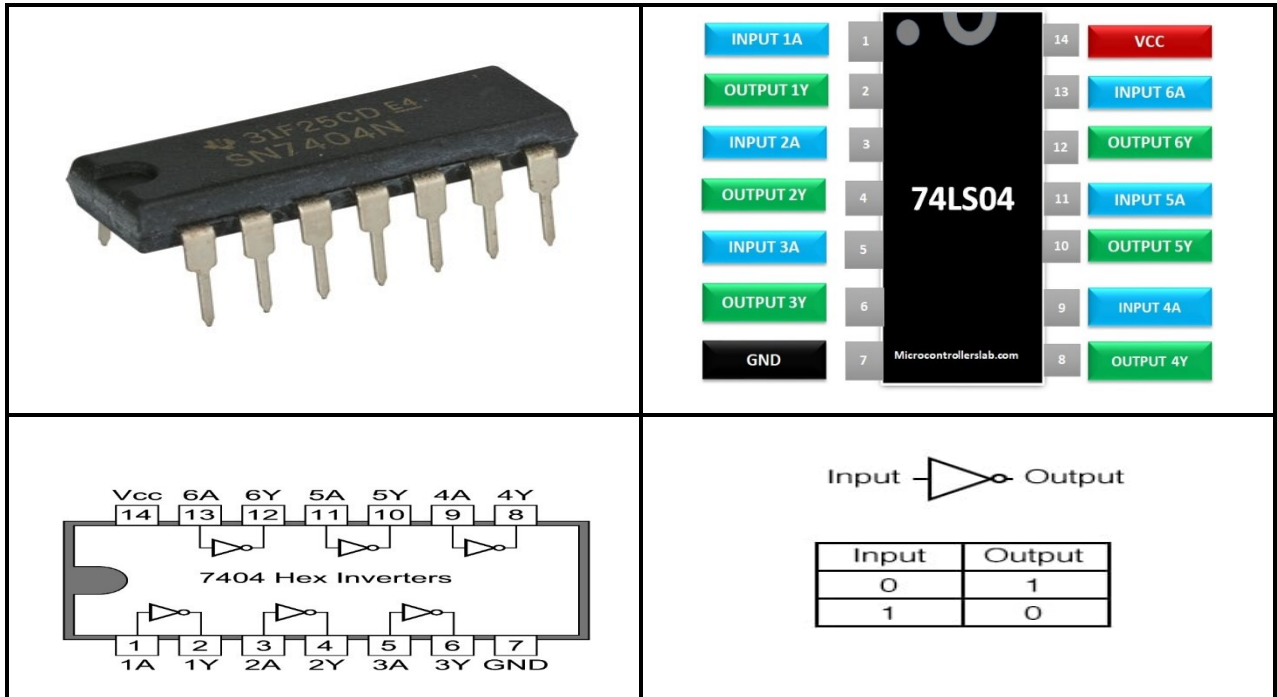
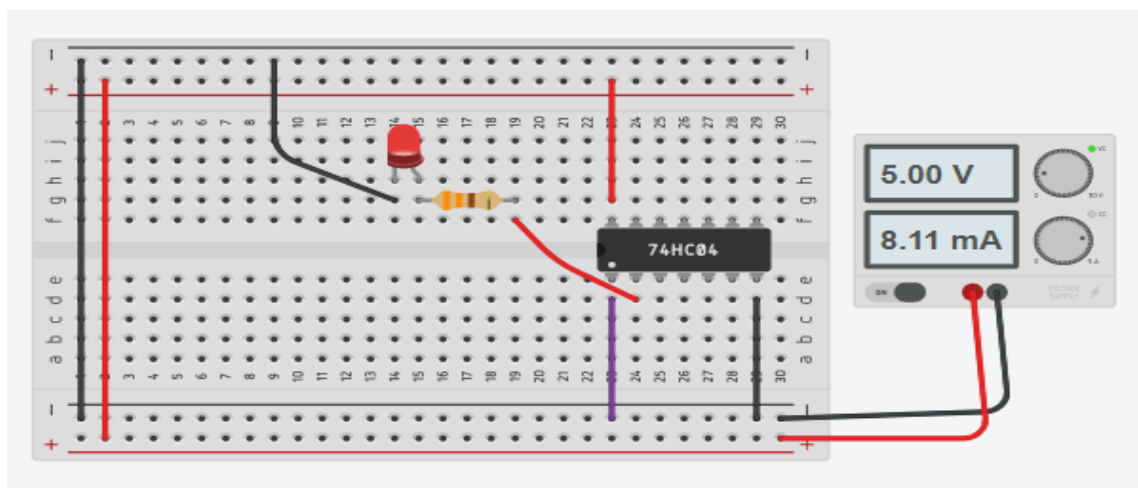

Figure 1. NOT Gate IC, Schematic, Pin Configuration, and truth table.
Figure 2. Test NOT IC on the Breadboard.
- 1) As shown in Figure 1, Pin 7 is the ground and Pin 14 is VCC. So, **Connect** 7404 Pin 7 to the ground line, and Pin 14 to the 5V power line, as shown in Figure 2.
- 2) **Connect** Inputs of the first NOT gate, Input A1 (Pin 1), to the Ground (logic 0), the purple wire shown in Figure 1.